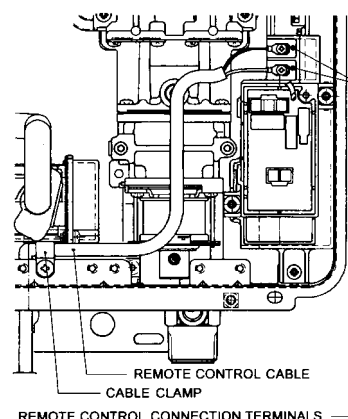

fig.2
9. Connect the 4 spade connectors to the terminals marked "Remote Control" on the printed circuit board (fig. 2). Polarity is not important. Either wire colour can be connected to either terminal.